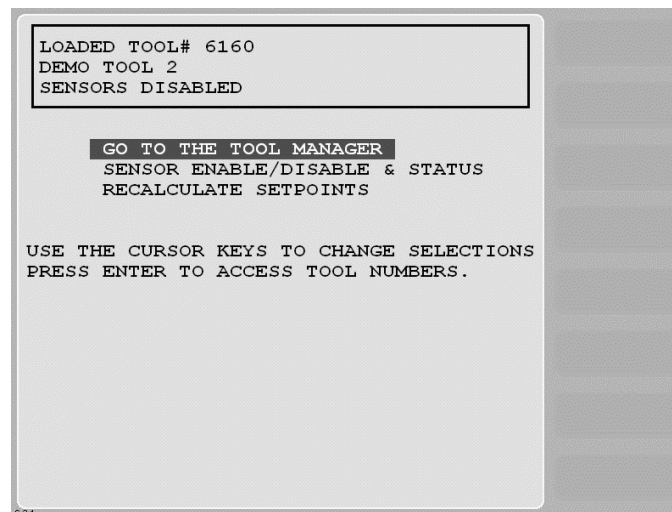

Figure 4-2. Main Program Menu
1. From the main menu of the current operating mode, turn the Program/Run key to “PROG.” The Main Program Menu (see Figure 4-2) displays.